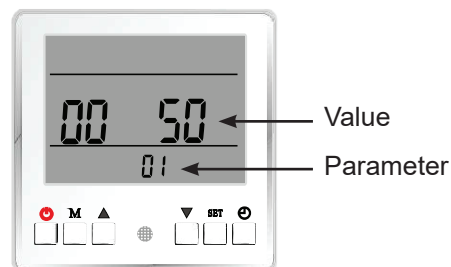

Figure 7-10 - Sensor and system informations menù
- 1.- With the appliance on, press the ▲ and ▼ buttons simultaneously for 5 seconds. The display will switch as in Figure 7-10;